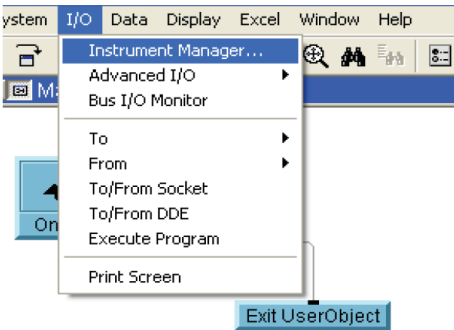
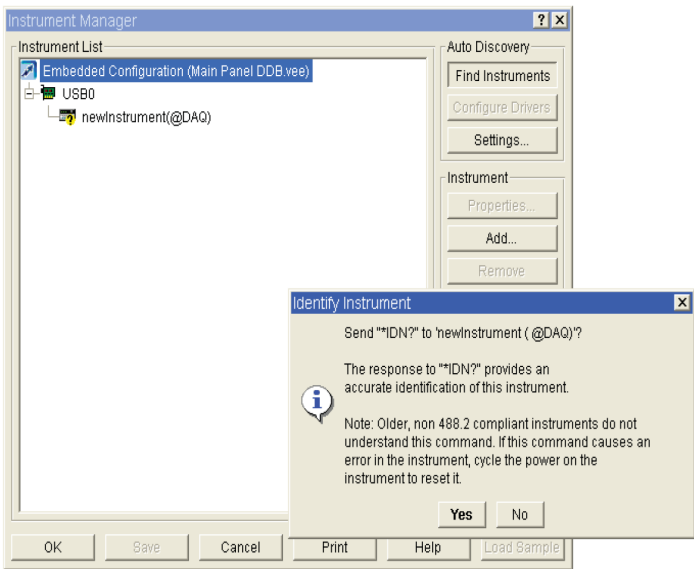

Figure 6. I/O menu of Keysight VEE Pro
Figure 7. Keysight VEE Pro Instrument Manager
2. Select **I/O** menu on the menu bar and select **Instrument Manager** as shown in Figure 6. The **Instrument Manager** dialog box will appear as shown in Figure 7.